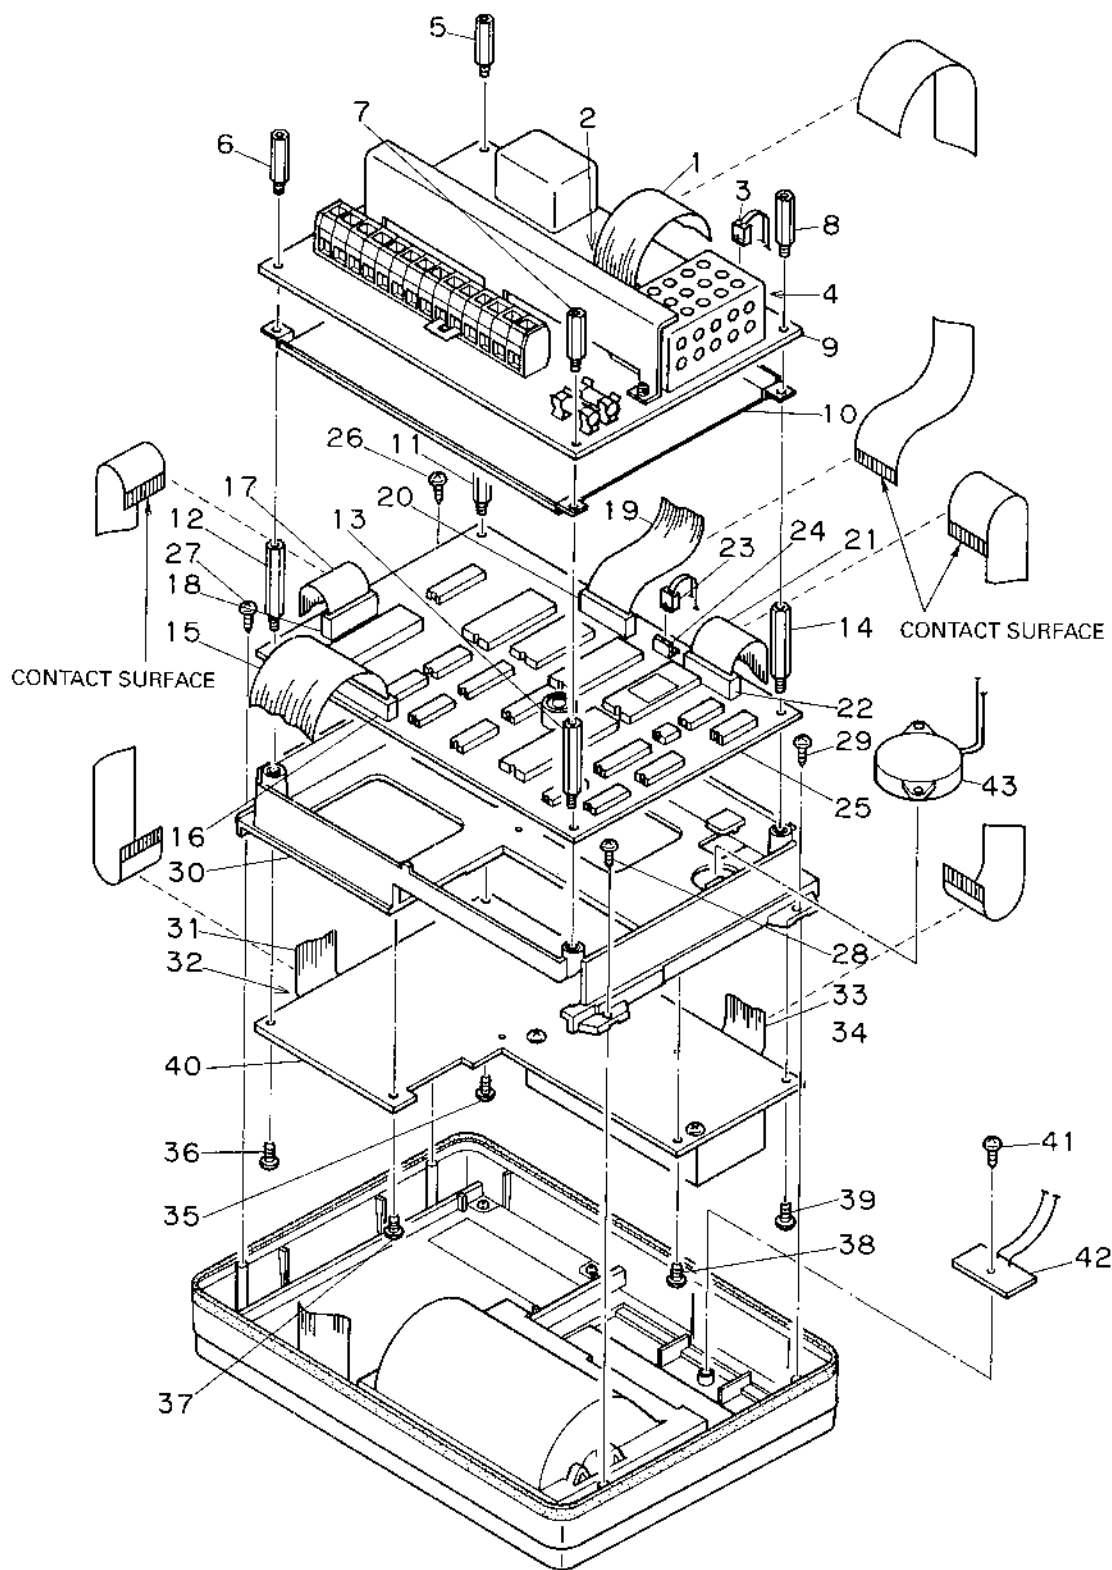

Fig. 17
4.4 REPLACEMENT OF CMN-2300A DEMODULATOR (Refer to Fig. 17)
4.5 REPLACEMENT OF CDJ-2300B MAIN PROCESSOR (Refer to Fig. 17)
4.6 REPLACEMENT OF CDG-2300A PRINTER INTERFACE (Refer to Fig. 17)
4.7 REPLACEMENT OF CML-2300A LIGHTING BOARD (Refer to Fig. 17)